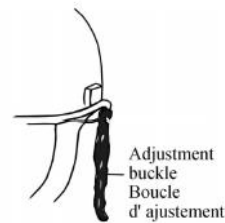

Figure 3
- The chin strap is installed to the helmet by inserting the hooks to the two chin strap attachment holes located on two sides of the helmet. (Figure3).